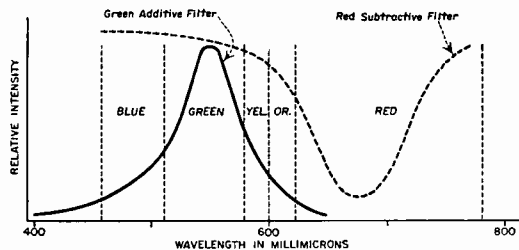

Fig. 1
FIG. 1. (A) A 6 to 8 foot dipole phased to existing antenna. The antenna may be of any type. The quarter-wave sections of lead-in are equal and cut to frequency desired. The antennas are oriented independently for minimum ghosts. (B) A rotor turns one antenna of a stacked array, thus varying the receiving field pattern. Conical antennas may be used, but the simpler units are preferable. The rotor may also be used to turn the phase-control dipole.
When the antenna is installed and oriented for the best picture, a little gimmick (see Fig. 1) may do more to help you than all the manufactured antennas on the market today. A simple aluminum rod or plated metal-tubing dipole six or eight feet long is phased in as illustrated and moved up or down the mast, independently of the existing antenna for best pictures. The desired vertical spacing from the fixed antenna is achieved when a half-turn of the dipole gives the maximum variation in gain between two positions 180° apart. The signal on the phasing dipole is emphasizing or de-emphasizing the signal on the other antenna, depending on whether the antenna is in or out of phase.
All systems which have been considered for color TV in this country are trichromatic in nature, i.e., three primary colors are used in various combinations to form all the hues of the visible spectrum. The primary colors employed are not the familiar red-blue-yellow used in art and color printing, but rather a more basic red-green-blue combination. These primaries are known as the "additive" primaries whereas the red-blue-yellow primaries (more accurately "magenta-cyan and lemon-yellow" since they are complex colors made up of bluish red, bluish green and greenish yellow, respectively) are known as the "subtractive" primaries. The distinction comes from the fact that a subtractive color filter *subtracts* one color from pure white light passing through it, leaving a complex hue made up of all other colors, while an additive filter absorbs all colors in the spectrum but one. In this respect the subtractive color filter is analogous to an electrical *band-rejection* filter, while an additive color filter is like an electrical *band-pass* filter. This concept is illustrated in Fig. 1, which shows the response of an additive color filter as a solid line and that of a subtractive filter as a dotted line.